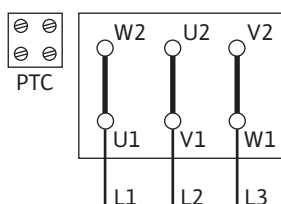

Fig. 10: Y-Δ start
- The mains connection is dependent on the motor power P_2 , mains voltage and activation type. Refer to the following table and Fig. 10, 11 and 12 for the required connection of the connection bridges in the terminal box.